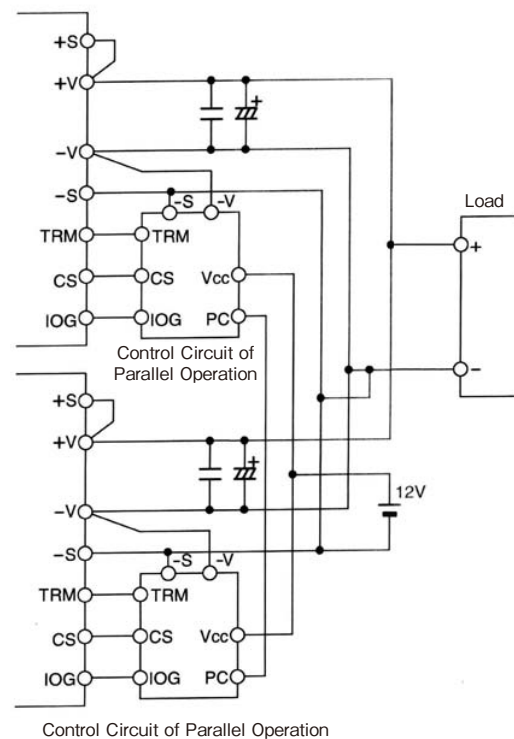
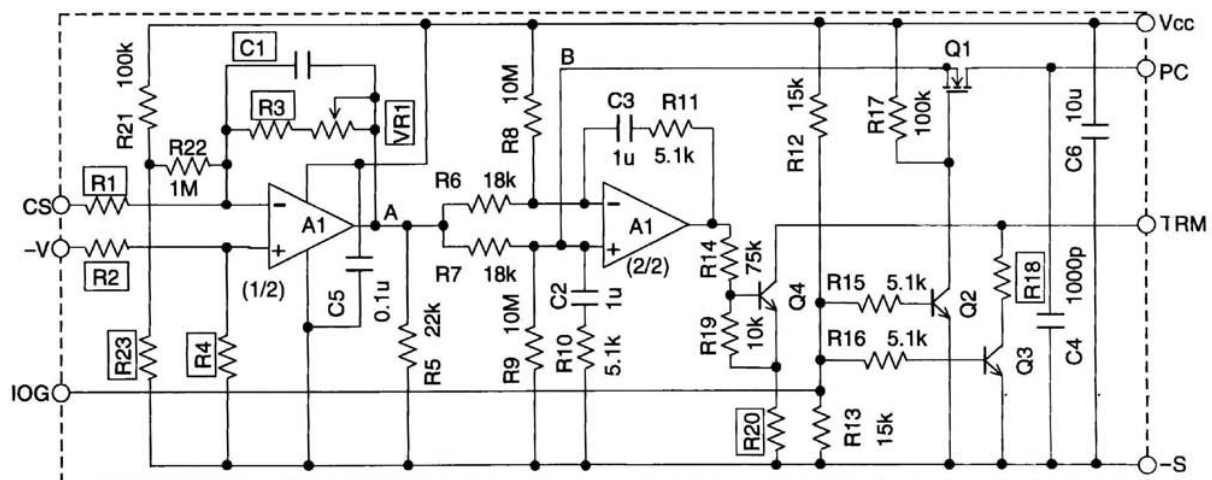

Figure3-1 Basic Connection Circuit of Parallel Operation
Figure3-2 Control Circuit for Parallel Operation
Basic circuit connection is shown in Figure3-1. For control circuit of parallel operation, individually connect a circuit shown in Figure3-2 to each PH300S, 600S series of power module of parallel operation.
(2) Terminal Explanation of Figure3-2
For CS terminal voltage is a small voltage in negative polarity, Op-Amp A1 (1/2) is amplifier inverting shown as Figure3-2. For all of PH modules to be in parallel operation, VR1 shall be adjusted to equalize with the voltage at A point at full load. Setting voltage of A point is 3V to 5V, and the setting accuracy is within $\pm 2\%$. Voltage adjustment of A point can be adjusted with PC terminal of open circuit.
For choosing capacitor(s), refer to values expressed in Figure 3-2 and values for each component shown in Table 3-2. Use film capacitor or ceramic capacitor which has good temperature characteristics.
For choosing capacitor(s), refer to values expressed in Figure 3-2 and values for each component shown in Table 3-2. The tolerance shall be less than $\pm 5\%$.